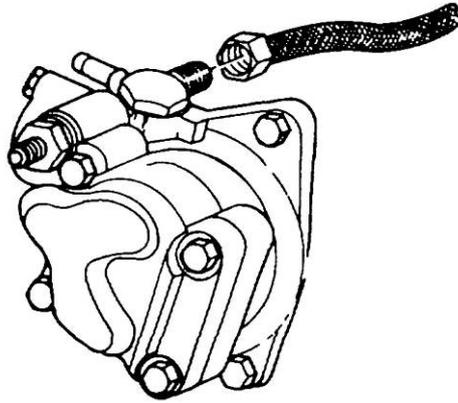

Figure 5 Removal of the Pump-to-power Steering Hoses
- l. Disconnect the hoses from the adaptors on the power steering pump (Figure 5) and plug them with suitable plastic plugs to prevent fluid loss.